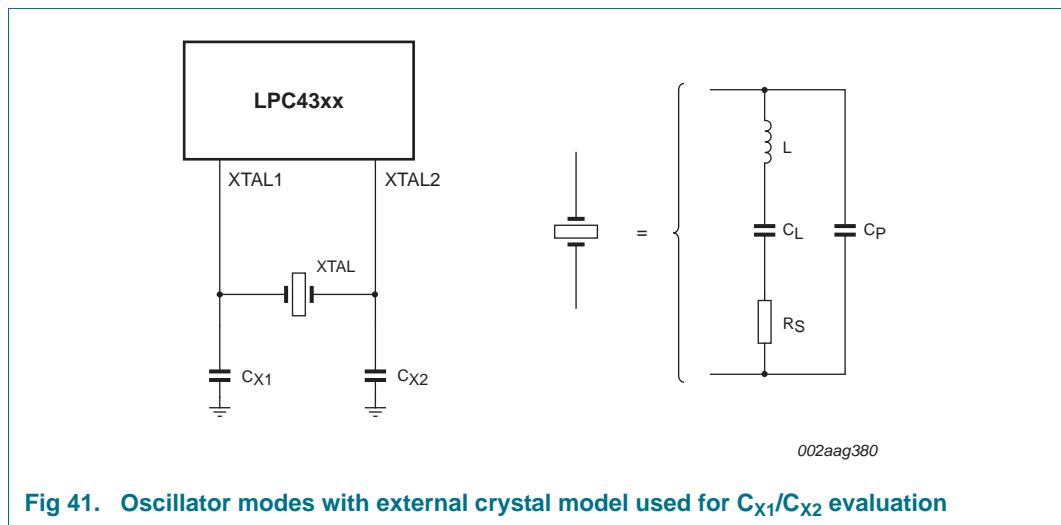

Fig 41. Oscillator modes with external crystal model used for C_{X1}/C_{X2} evaluation
- External components and models used in oscillation mode are shown in Figure 41, and in Table 27 and Table 28. Since the feedback resistance is integrated on chip, only a crystal and the capacitances C_{x1} and C_{x2} need to be connected externally in case of fundamental mode oscillation (the fundamental frequency is represented by L , C_L and R_s). Capacitance C_P in Figure 41 represents the parallel package capacitance and should not be larger than 7 pF. Parameters F_C , C_L , R_s and C_P are supplied by the crystal manufacturer.